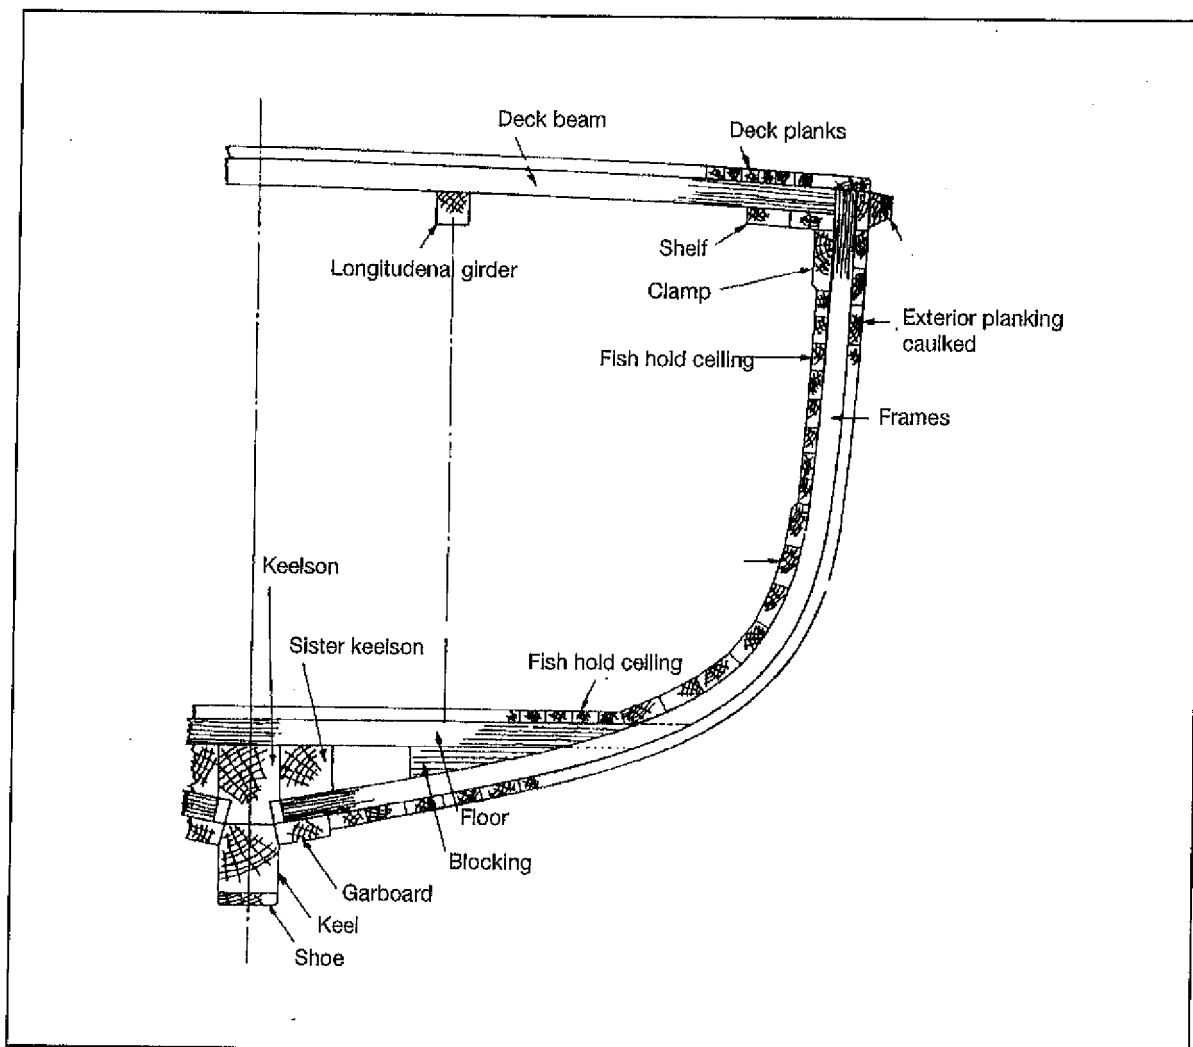
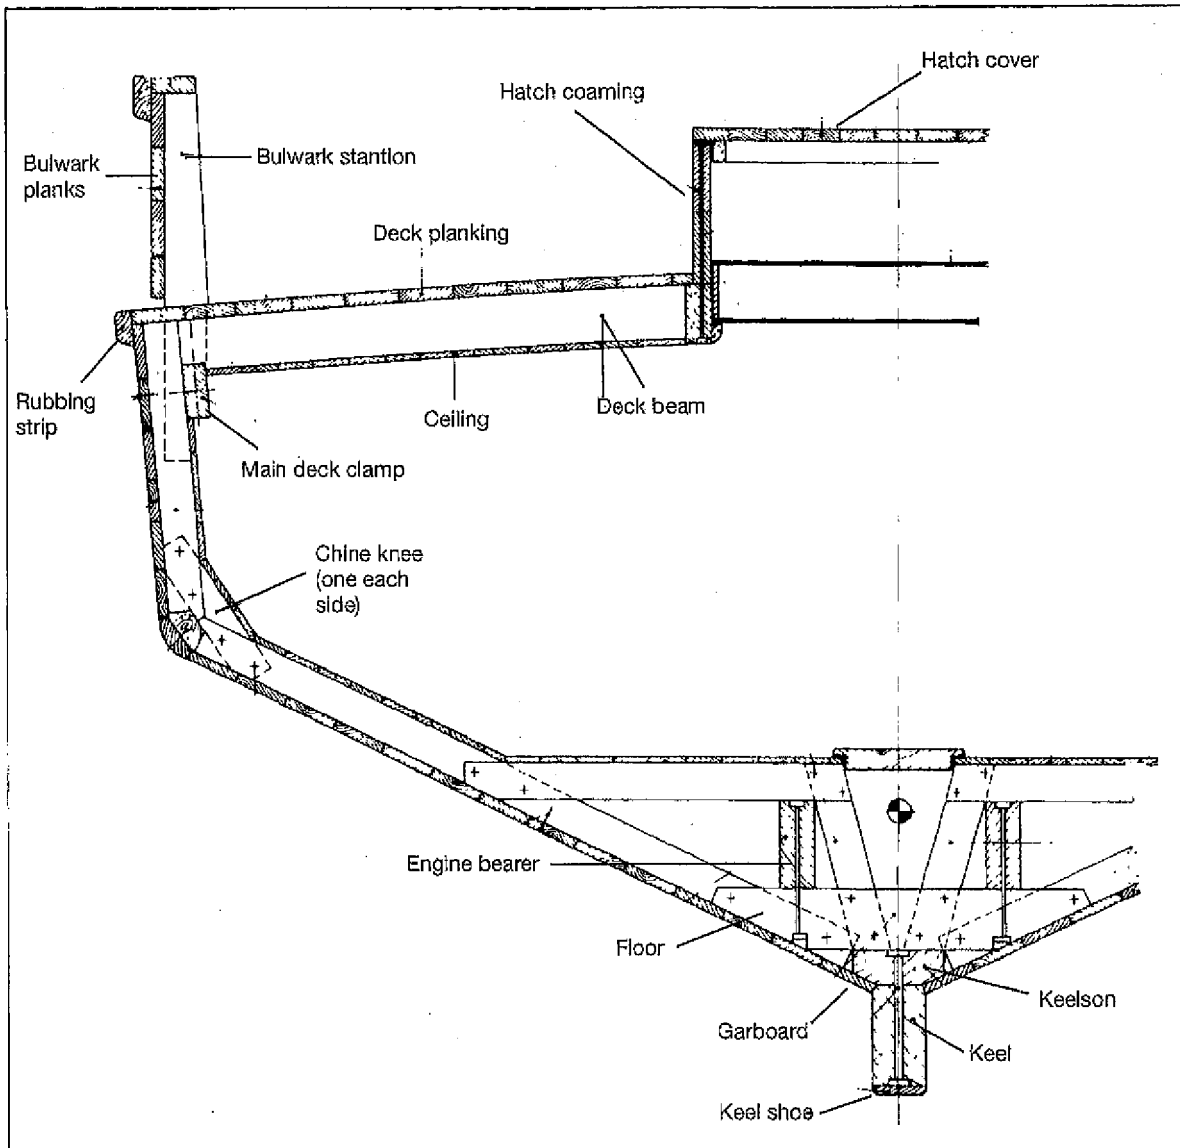

Fig 2.4 Carvel Planked Wooden Construction
Fig 2.5 Hard Chine Wooden Construction
- Figure 2.4 shows a round bilge carvel planked construction and Figure 2.5 shows a typical hard chine plywood construction for wooden fishing vessels. While many of the parts are similar to steel and fibreglass construction, the ways of joining and fastening the wooden parts require specialist knowledge.